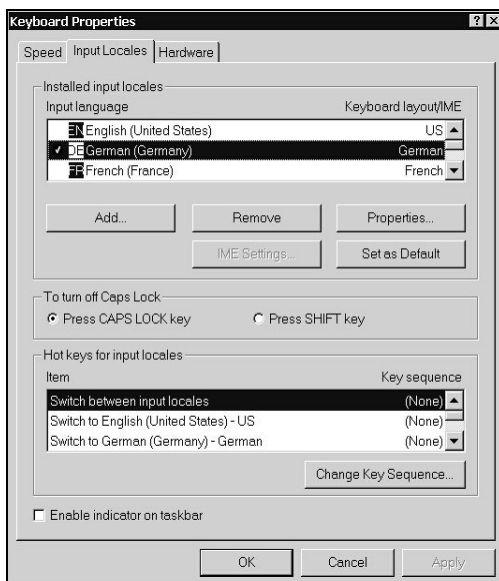

Fig. 5
- Choose the appropriate language under the "Input language" list box (Fig. 5), confirm with the button "Set as default" and close the window with "OK".